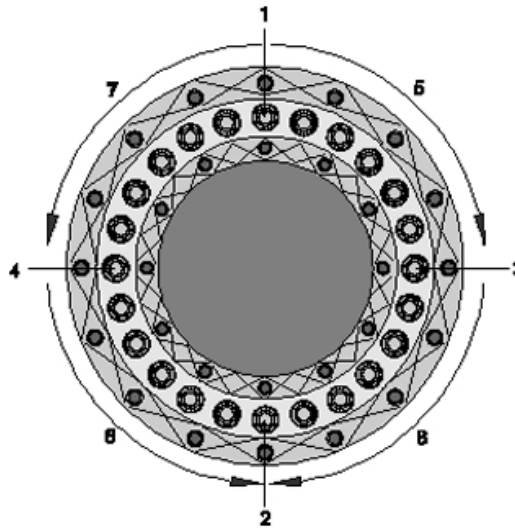

Figure 2
2. Secure the cutting tool with 4 washers and bolts. (See Figure 2).
4. Fit the remaining bolts and washers. Observe the order shown in Figure 2.
After fitting all the bolts, use a hydraulic driving tool to tighten to the correct tightening torque. Again keep to the order shown in Figure 2 when doing so.